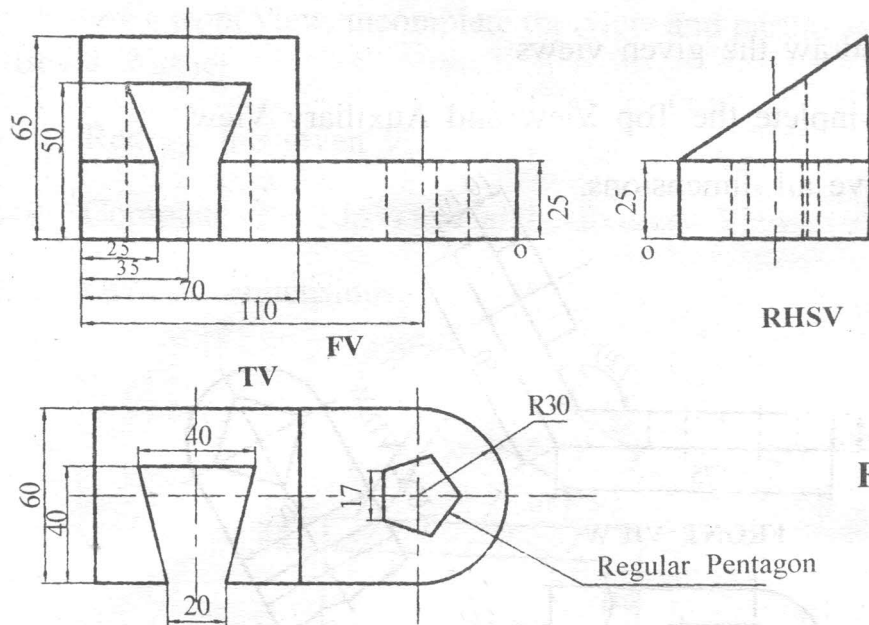

Fig. 8
Q.8) Fig. 8 shows the orthographic views of an object draw its isometric view about 'O' : [20]